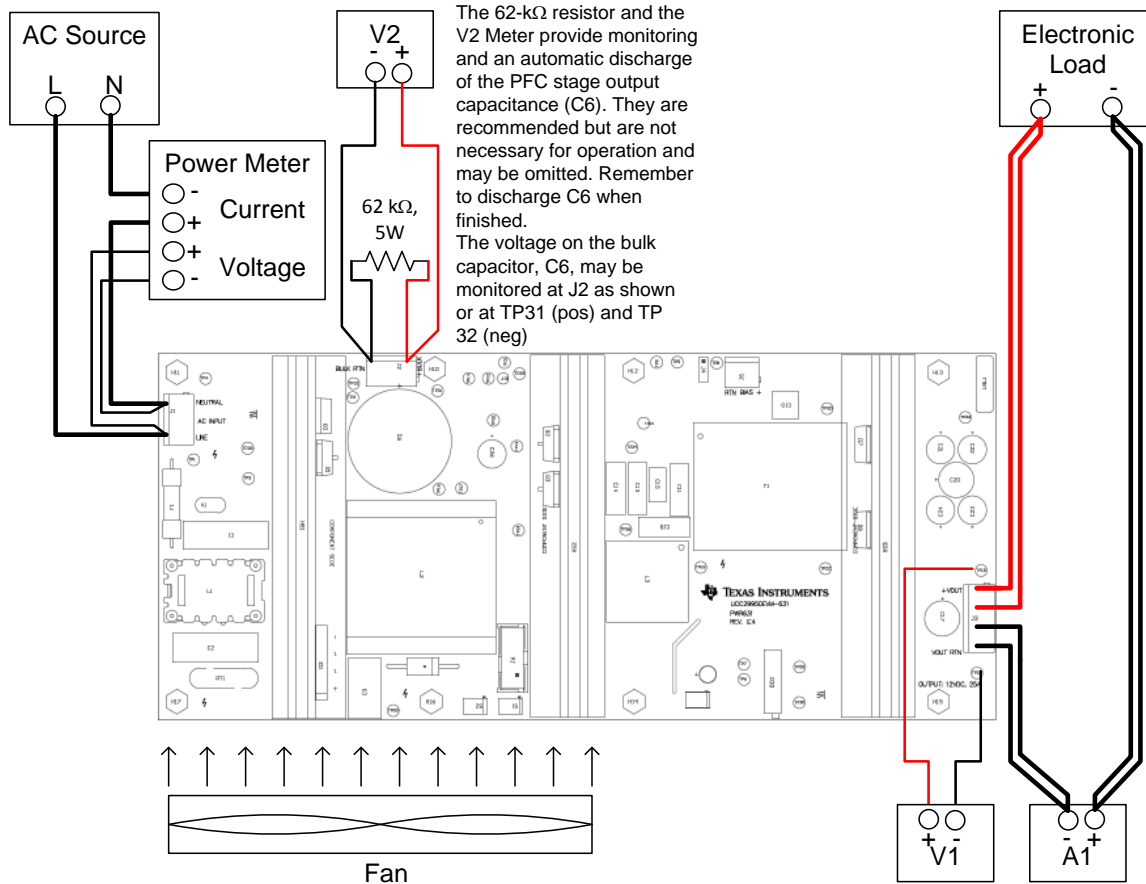
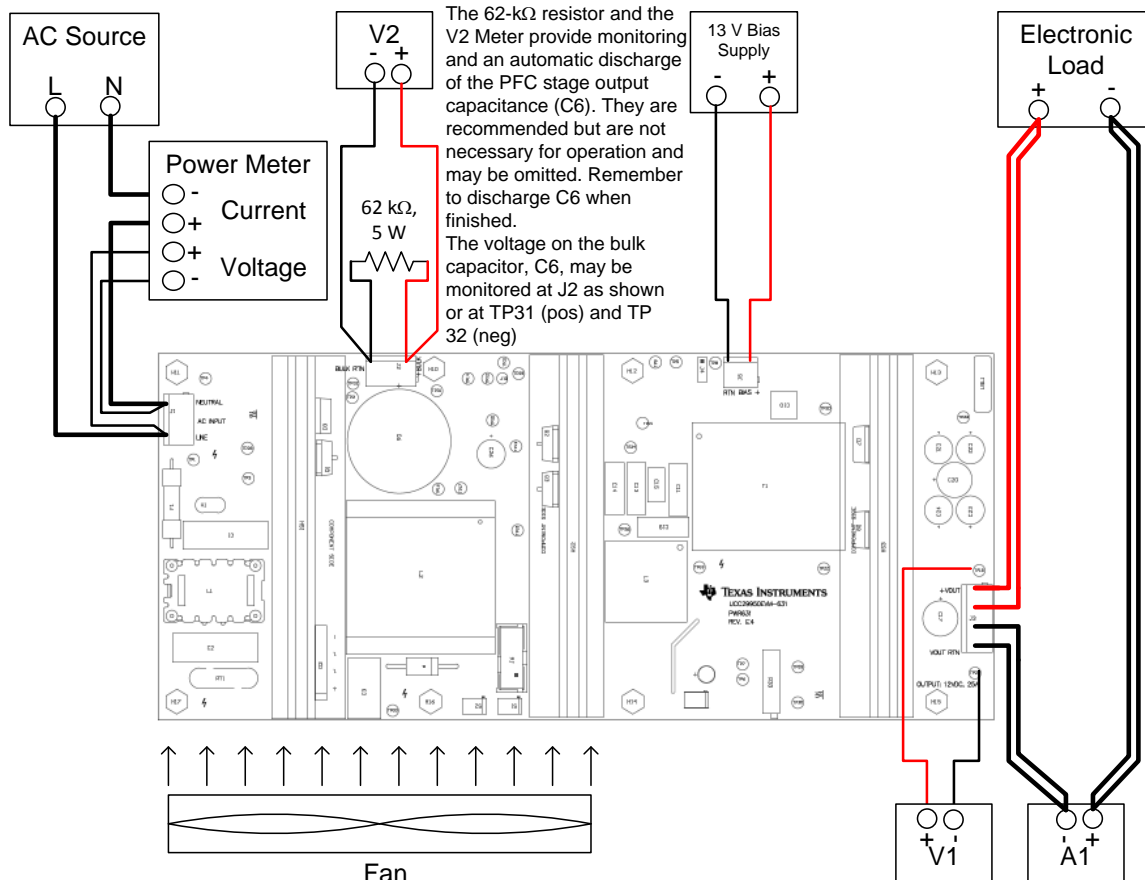

Figure 3. UCC29950EVM-631 Recommended Self Bias Test Set Up
Figure 4. UCC29950EVM-631 Recommended Aux Bias Test Set Up
Figure 3 shows the test setup recommended in order to evaluate the UCC29950EVM-631 in Self Bias Mode. Figure 4 shows the test setup recommended in order to evaluate the UCC29950EVM-631 in Aux Bias Mode.
13-V Bias Supply: The bias supply to the device shall be capable of supplying up to 13 V_{DC} at no less than 100 mA. Connect the bias supply to the negative and positive terminals of J5, shown in Figure 3 and Figure 4.
Output Load: One Electronic Load (for example TDI RBL 488 600-40-800). A programmable electronic load set to constant current mode and capable of sinking 0 A to 25 A at 12 V_{DC} shall be used. Connect the load to J3 as shown in Figure 3 and Figure 4.
Fan: A fan, capable of 200 LFM to 400 LFM, should be used to maintain component temperatures within safe operating ranges at all times during operation of the UCC29950EVM-631. Position the fan so as to blow along the length of the heatsink as shown in Figure 3 and Figure 4.
- (a) Connect the equipment as shown in Figure 3.
The following test procedure is recommended primarily for power up and shutting down the evaluation module in Aux Bias Mode. Never leave a powered EVM unattended for any length of time. Also, the unit should never be handled while power is applied to it. The UCC29950EVM-631 is set at the factory to operate in Aux Bias Mode, with an external bias supply as shown in Figure 4. Operation in Self Bias Mode, without an external bias supply is described in Section 5.3.
- (a) Connect the equipment as shown in Figure 4.
Use the test set up shown in shown in Figure 3 (Self Bias Mode) and Figure 4 (Aux Bias Mode) to test the load regulation of the EVM.